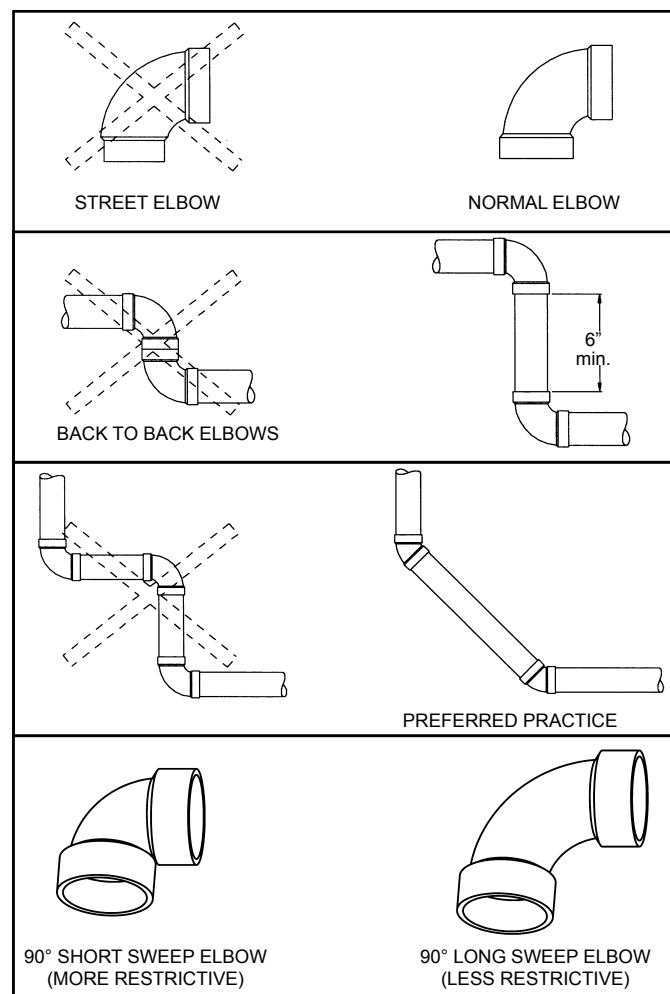

Figure 31.
Note: The information provided in Figure 31 is intended as a guideline for good vent installation practices only and is not intended to restrict venting options beyond those restrictions established by the current edition of the “**National Fuel Gas Code**”, ANSI Z223.1/NFPA 54 or any applicable local and state codes.
3. Avoid using 90° elbows “back to back” and do not use street elbows. Maintain a minimum 6” straight section between elbows. Closely coupled and short radius elbows reduce the venting capacity. Figure 31 shows examples of vent pipe connections.